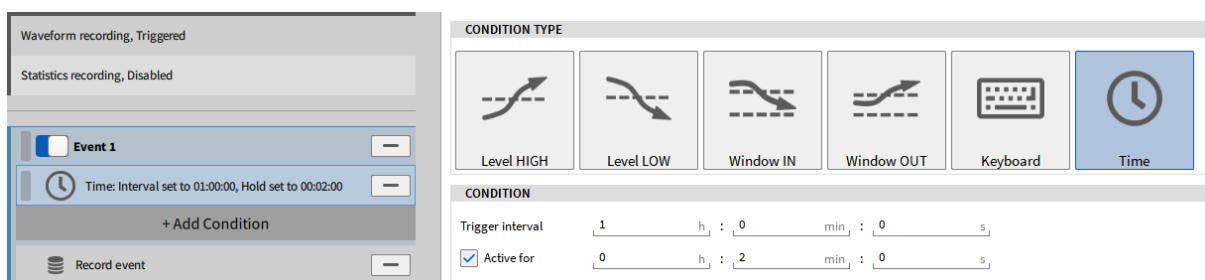

Fig. 9.35: Recording every 60 minutes for 2 minutes
- Select the *Time* Condition and enter *1h* as *Time interval* and enable *Active for 2 minutes* (see Fig. 9.35):